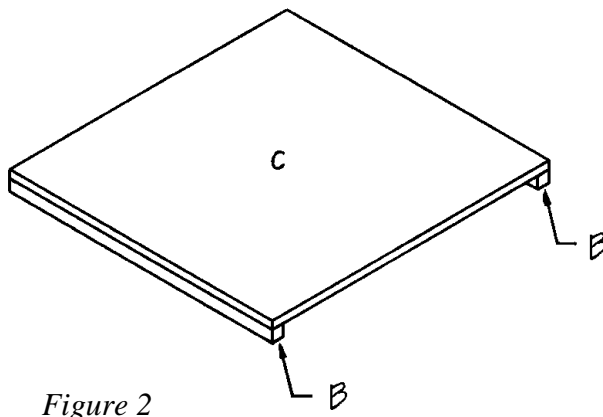
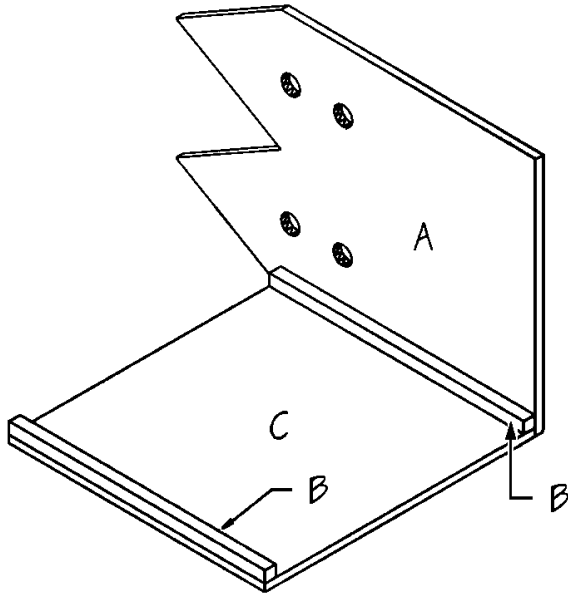
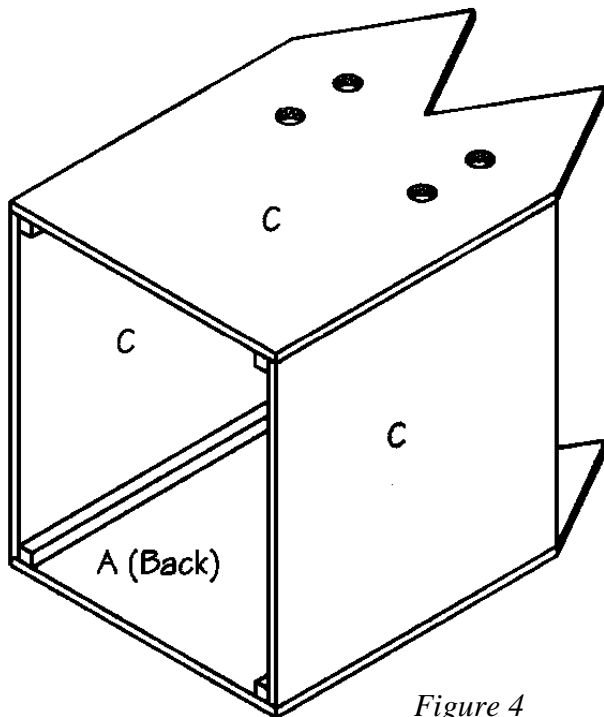

Figure 2
Figure 3
Figure 4
Place the Front (A) perpendicular to the Side (C), matching the 17" edges, as shown in *Figure 3*. Make certain that the outside edges are flush, then apply glue to the meeting surfaces, and nail through the Front (A) into the Corner Supports (B) using four evenly spaced 1-1/4"-long finishing nails.
3. Cut four Corner Supports (B) from 1 x 1 pine, each measuring 17" long.
4. Cut two Sides (C) from 1/2"-thick plywood, each measuring 17" x 18".
5. Place two Corner Supports (B) parallel to each other and 16-1/2" apart. Place one Side (C) over the Corner Supports (B), matching 17"-long edges, as shown in *Figure 2*. Apply glue on the meeting surfaces, and nail through the Side (C) into the Corner Supports (B) using four evenly spaced 1-1/4"-long finishing nails.
6. Repeat Step 5 to attach the remaining two Corner Supports (B) to the remaining Side (C).
7. Place the Side (C) [with Corner Supports (B) on the top] on a level surface. Place the Front (A) perpendicular to the Side (C), matching the 17" edges, as shown in *Figure 3*. Make certain that the outside edges are flush, then apply glue to the meeting surfaces, and nail through the Front (A) into the Corner Supports (B) using four evenly spaced 1-1/4"-long finishing nails.
8. Repeat Step 7 to attach the Back (A) to the opposite side of the Side (C).
9. Position the remaining Side (C) over the assembly, aligning the 17"-long edges, as shown in *Figure 4*. Apply glue to the meeting surfaces and nail through the Side (C) into the Corner Supports (B) using 4 evenly-spaced 1-1/4"-long nails on each joint.